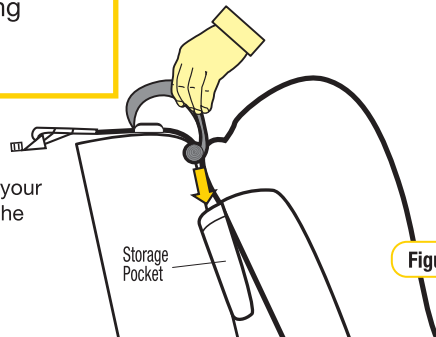

Figure 9
Step 7: Store any excess webbing, from the top tether strap, in the storage pocket provided on the restraint (refer to Figure 9).
After correctly installing the restraint in your car, roll up and place any excess strap in the storage pocket provided (refer Figure 9).